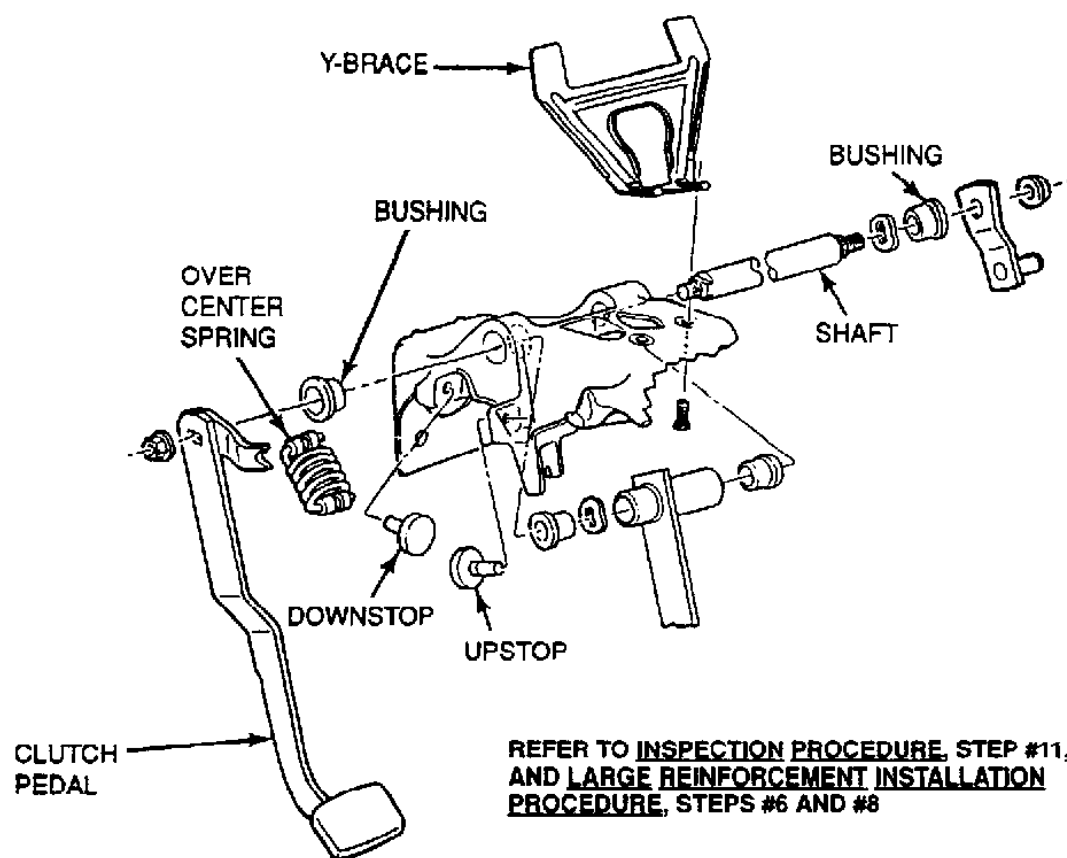

Fig. 4: View of Y-Brace & Clutch Linkage
- * Missing Y-brace fasteners and a broken or detached Y-brace, Fig. 4.
4. Remove the steering column and dash toe plate by removing the five (5) fasteners.
- c. Loosen the two (2) fasteners attaching the brake and clutch pedal support to the Y-brace, Figure 4.
8. Thoroughly inspect the brake and clutch support again for cracks in the casting and worn bushings. Also, inspect the "Y" brace for cracks and missing fasteners. Replace as necessary, Fig. 4.